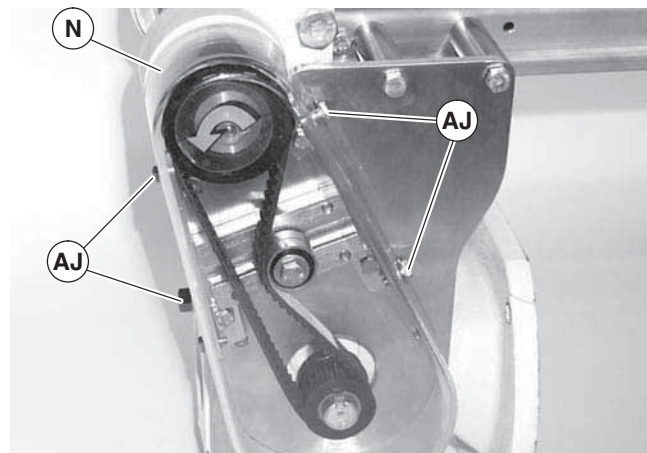

Figure 11
Do not over-tighten screws (Figure 11, item AJ).
6. Attach cover (Figure 11, item N) with four screws (AJ). Tighten screws to 35 in-lb (4 Nm).